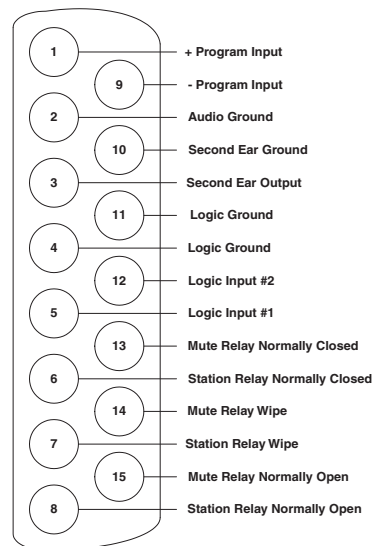

Figure 7: Miscellaneous Connector Pinout
2. Connect a shield or ground connection if available to the connector's pin 2 (see Figure 7 on page 1-4).
Use normally open type switches to activate the logic inputs. Connect the switches as follows (Figure 7 on page 1-4):
The mute relay is activated whenever any talk selector is activated at the station. The mute relay is commonly wired such that whenever it is activated, the volume of the monitor speaker in that room is decreased (muted). See Figure 7 on page 1-4.
The relay can activate an external device, such as an applause light in a studio, a cue light, or a security door lock. Any programmable relay in the system can be activated from any station in the system, including a direct-inward-access caller. Figure 7 on page 1-4 shows the wiring of the relay contacts to the Miscellaneous connector.
Figure 7 shows the pinout for the intercom station's DB-15F Auxiliary Audio I/O connector. Following are descriptions and wiring information for the OPT-100 Auxiliary Audio I/O option.
Connect to pins 8 and 15 for a balanced output. Pin 7 is available as a shield or ground source (see Figure 7).
Connect to pins 1 and 9 for a balanced SA audio output. Pin 2 is available as a shield or ground source (see Figure 7).
Both normally open and normally closed contacts are provided. They are rated at 1 Amp at 24 VDC. This relay is not designed for switching mains AC line voltage. To switch an external device running on mains AC line voltage, use an external relay (or other switching mechanism) activated by this relay (see Figure 7). The following table shows the pins available for the SA relay.
Connect to pins 6 and 13 for a balanced output. Pin 14 is available as a shield or ground source (see Figure 7).